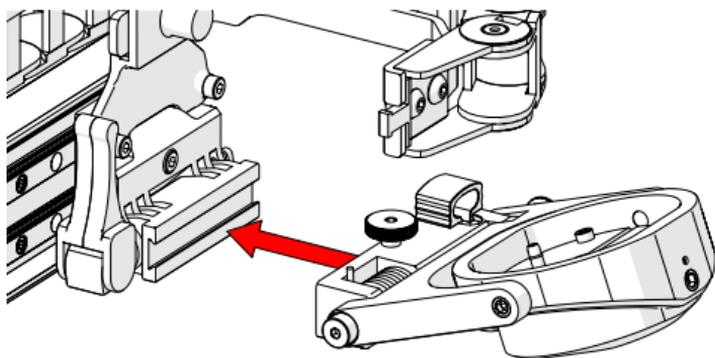

Fig. 129 - Attached to dovetail jaw
1. Align the dovetail jaw of the corrosion thickness probe holder (*Fig. 129*) and the pivot mount of the raster arm.